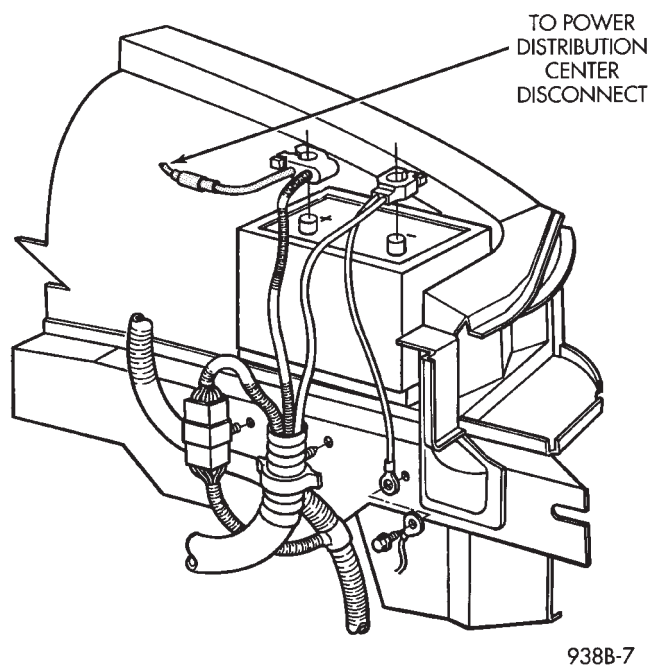

Fig. 7 Battery Cables Disconnected
(12) Install battery hold down clamp, making sure that it is properly positioned on battery.
(13) Place battery heat shield, over battery. The top inside surface of heat shield must be flush with top of battery.
(14) Connect battery cable clamps to battery posts making sure top of clamp is flush with top of post (Fig. 7). Install POSITIVE cable first.
(15) Tighten clamp nuts securely.